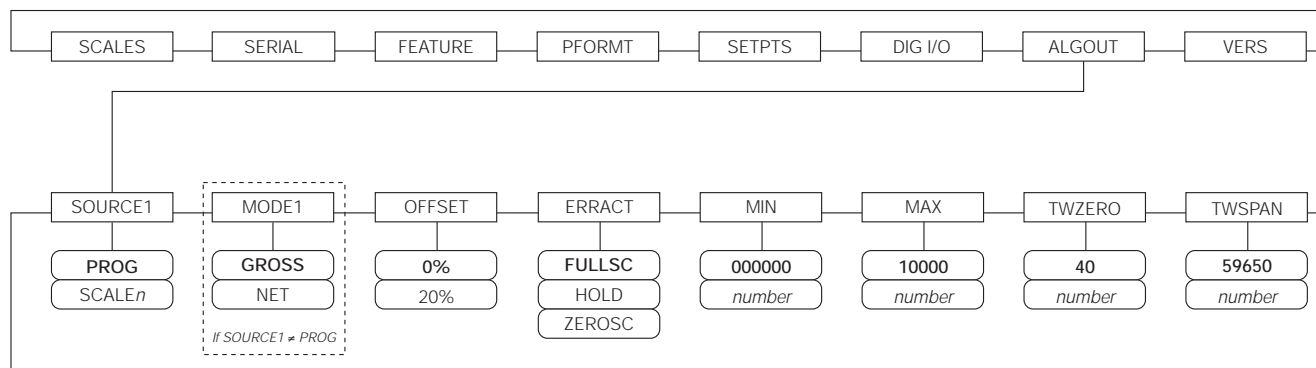

Figure 3-1. Analog Output Menu
1. Enter setup mode and go to the ALGOUT menu (see Figure 3-1):